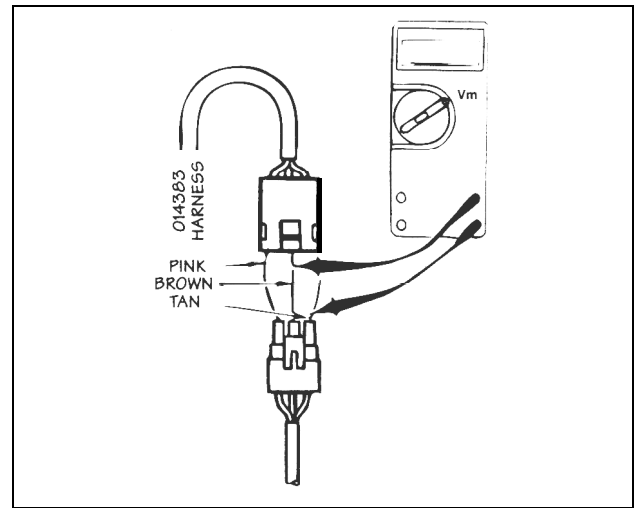

FIG. 1.1.12
**Correction:** De-energize the system and disconnect the harness, P/N 014383, from the ALIPS harness. Using the three clip leads, reconnect the brown, tan and pink wires. Connect the positive (+) probe to the tan wire and the negative (-) probe to the brown wire (Fig. 1.1.12). With the system energized and clutch engaged (pedal up), reading should be 5 volts. If not, replace the control module.